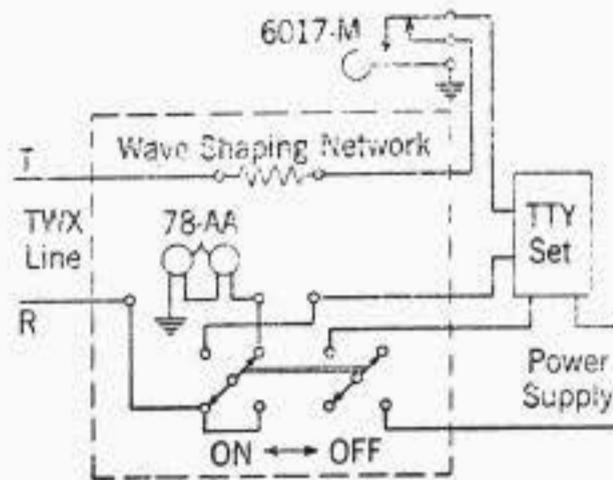

Fig. 3
5.02 Figure 3 shows a typical schematic arrangement of the 125-A-2 set. The actual arrangement of the set for various services is shown in another section covering the installation connections.